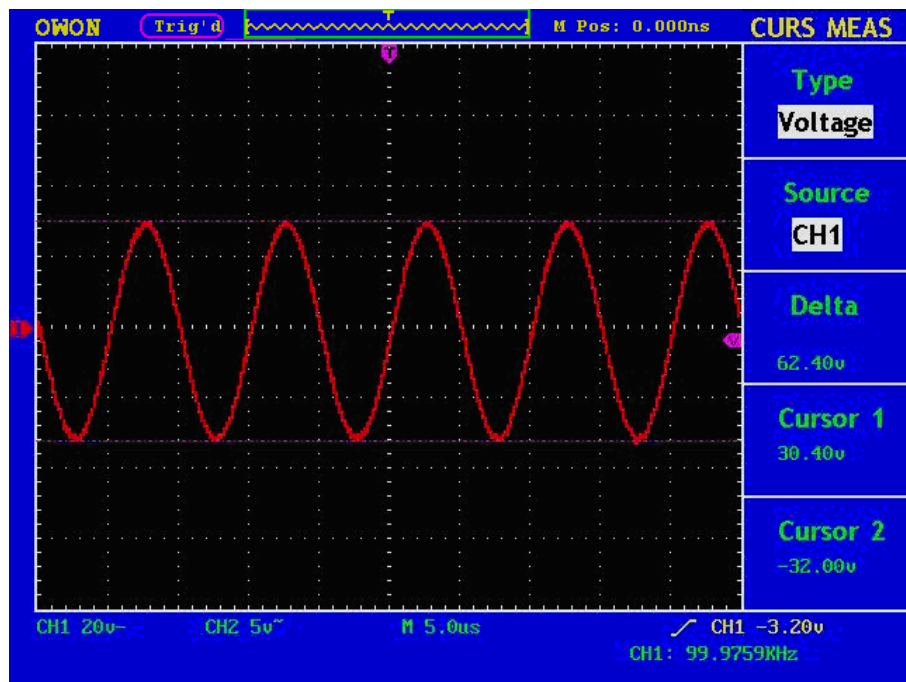

Fig.5-46 Waveform of Voltage Cursor Measurement
- Adjust the positions of **CURS** and **MEAS** according to the measured waveform, with the absolute value of the voltage amplitude difference between Cursor 1 and Cursor 2 displayed in the increment window. The current position of Cursor1 is displayed in the Cursor1 window and that of Cursor2 is displayed in the Cursor2 window (see **Fig.5-46**).